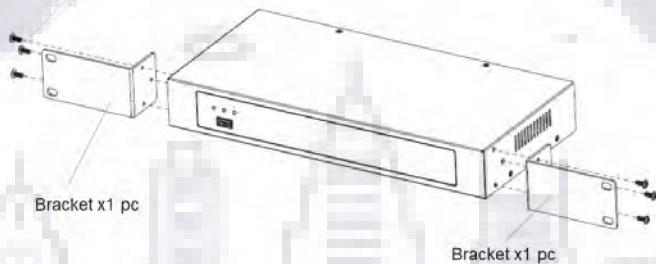

Figure 3
1. To install the chassis into a rack cabinet, install the included rackmount brackets. (See Figure 3).